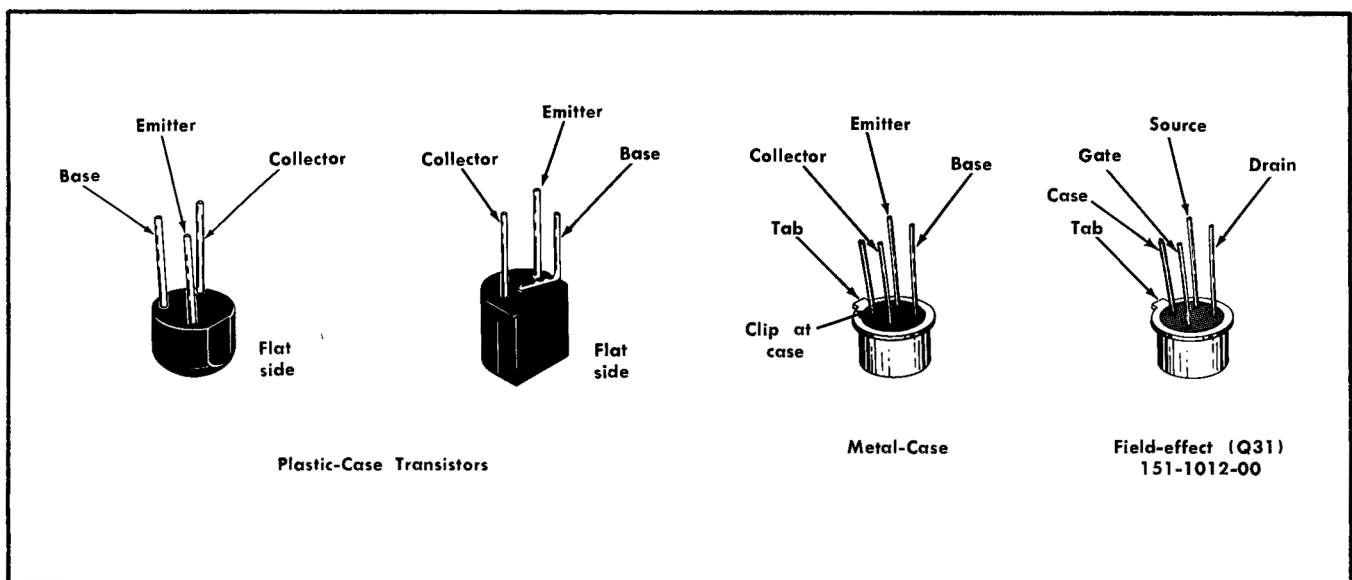

Fig. 4-1. Lead configuration for board-mounted transistors.
**Transistor Replacement.** Cut the leads of a replacement transistor to the same length as the transistor removed and bend the leads as necessary. The lead configuration of the transistors used in the Type S-2 are shown in Fig. 4-1. Two transistors, Q13 and Q17, have soldered leads and are soldered to the circuit board. The field-effect transistor mounting has an arrow at the top position.